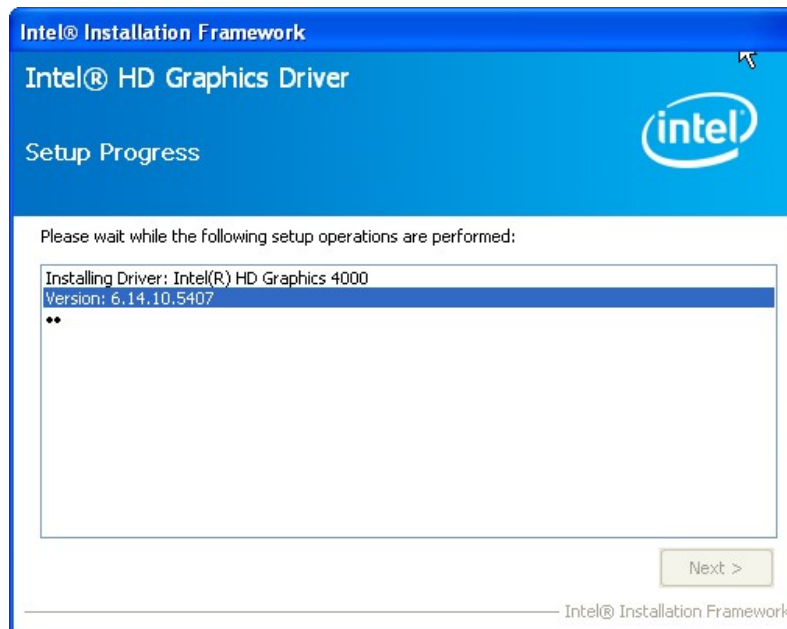

Figure 6-11: Graphics Driver Setup Operations
Step 9: **Setup Operations** are performed as shown in **Figure 6-11**.